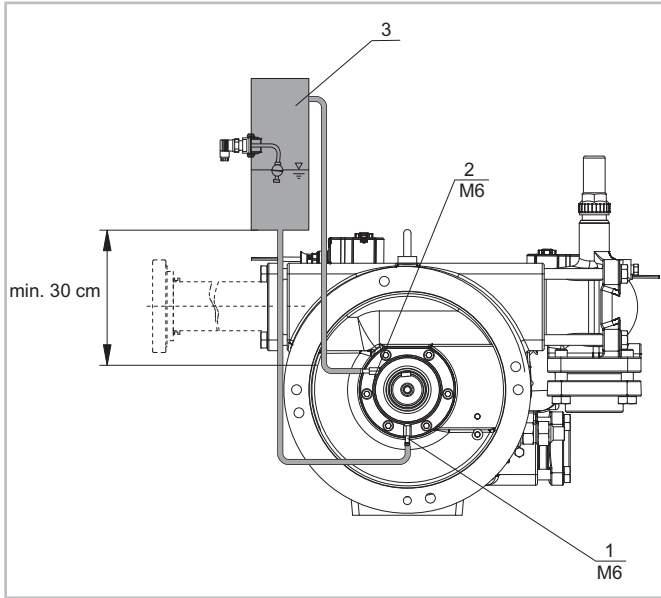

Fig. 4: Connect the oil reservoir to the shaft seal
- Attach the hoses (Ø 6 mm) to the connections 1 and 2 (see figure 4, page 28).
The reservoir (see figure 4, page 28, Pos. 3) should have a capacity of approx. 2 litres and should not be sealed to the outside.